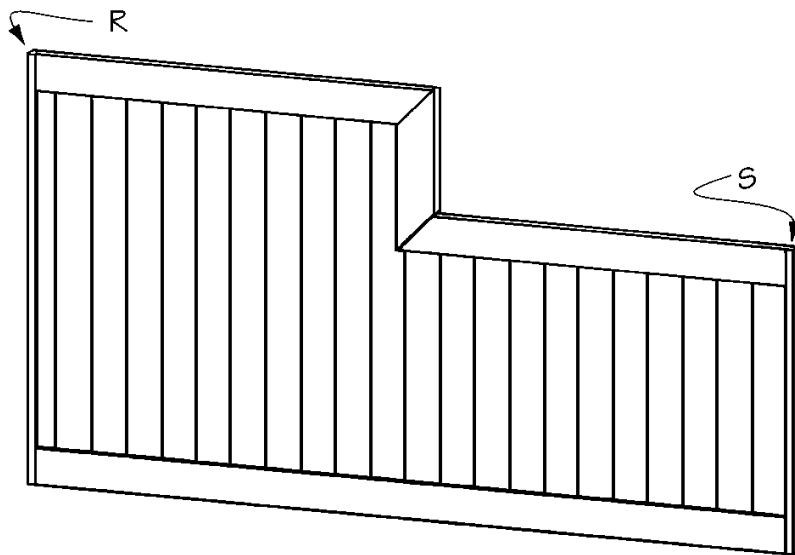

Figure 12
10. Cut one long back side (R) from 1 x 2 pine measuring 41 inches long.
11. Apply glue to the edge of the 2-inch slat (P) and attach the long back side (R) to the long side of the back assembly, as shown in *Figure 12*. Nail through the long back side (R) into the ends of the upper top back (M) and into the long back slat (P). Use 1-1/4-inch (3d) finishing nails spaced every five inches.
12. Cut one short back side (S) from 1 x 2 pine measuring 29 inches long.
13. Apply glue to the edge of the end slat (Q) and attach the short back side (S) to the short side of the back assembly, as shown in *Figure 12*. Nail through the short back side (S) into the ends of the lower top back (N) and into the short back slat (Q). Use 1-1/4-inch (3d) finishing nails spaced every five inches.